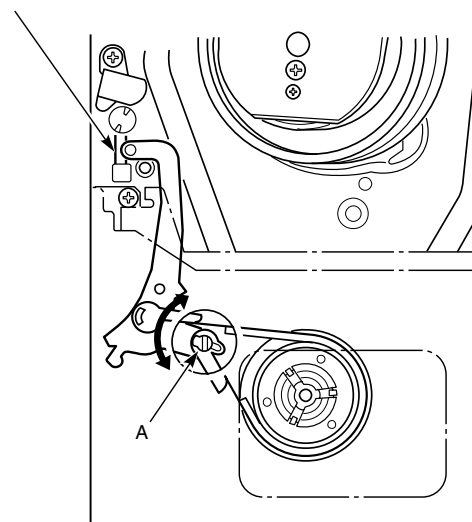

Fig. 9.1
- Set the brake band adjuster (A) so that the tip of the lever (Pos. 40100) is between the two lines on the mechanism chassis (Fig. 9.1).